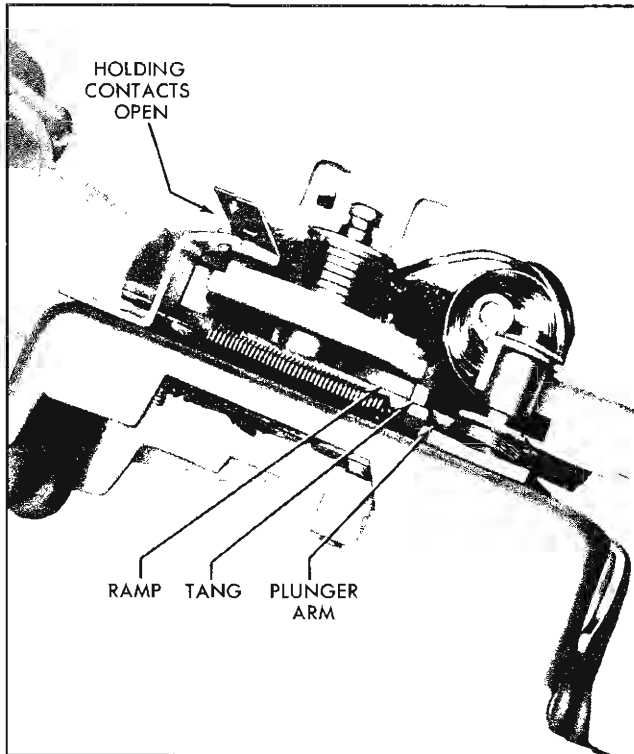
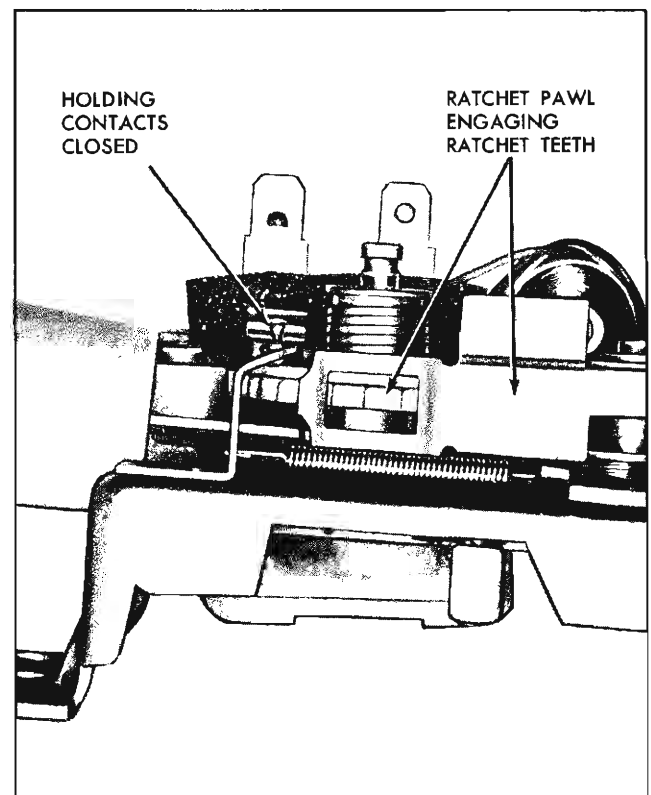

Fig. 11-79 Washer Pump Assembly
Fig. 11-81 Pump Contacts &amp; Ratchet Pawl
The pump is in the "lock-out" position when the relay holding contacts are open and a tang on the plunger arm rests against the widest part of an eccentric ramp located on the lower surface of the ratchet wheel (Fig. 11-79). The tang holds the bellows plunger arm in a retracted position (bellows spring compressed) allowing the plunger arm actuator pin
With the washer relay coil energized, the ratchet pawl, which is normally held away from the ratchet wheel by a spring, is pulled toward the coil pole and engages the ratchet wheel teeth. The ratchet pawl and plate assembly, which moves back and forth continuously when the wiper is on, now starts to rotate the ratchet wheel (Fig. 11-81).
As the ratchet wheel rotates the tang on the bellows plunger arm starts to ride up the eccentric ramp on the lower surface of the ratchet wheel. The full "lock-out" position of the pumping mechanism is reached when the tang is up on the widest part of the ramp (Fig. 11-79). The tang reaches the "lock-out" position at the same time the relay coil holding contacts open.
2. If relay and ratchet pawl perform correctly in Step 1, manually actuate the plate and ratchet pawl assembly to turn the ratchet wheel one tooth. Observe if relay holding contacts close (Fig. 11-81) and the pump plunger arm is released from its "lock-out" position. (Fig. 11-79 shows plunger arm in "lock-out" position.)
4. If pump performs correctly in Step 3, continue to manually actuate the plate and ratchet pawl assembly until the ratchet wheel has been turned through 360° or 21 teeth. After the ratchet wheel has been rotated 21 teeth, the holding contacts should be opened by a "hump" on the wheel and the pump plunger arm should be in the "lock-out" position (Fig. 11-79).